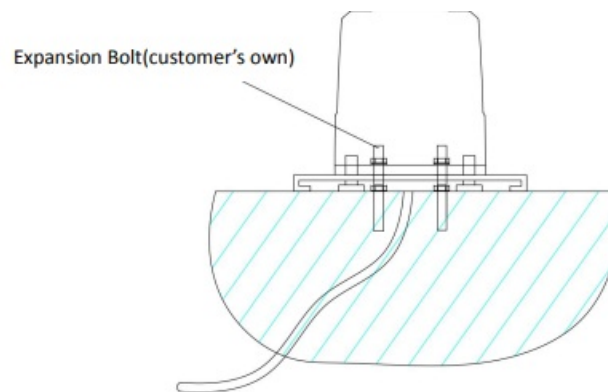

Figure 9
- Fit anchor bolts according to holes in the motor base (as per Figure 9).